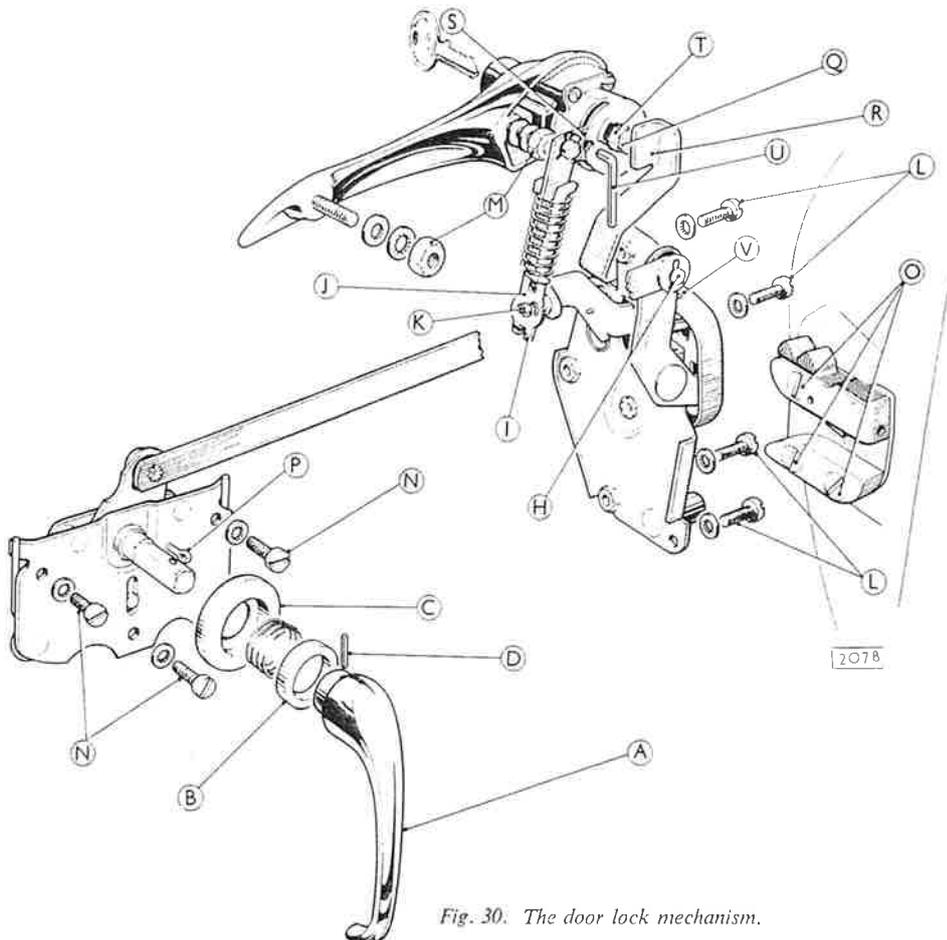

Fig. 30. The door lock mechanism.
The link is secured to the dowel (H, Fig. 30) on the lock lever by a circlip.
First release the spring (I, Fig. 30) holding the bottom of the outside handle extendable link (J) to the dowel (K) on the lock intermediate lever. This
This is retained by two nuts (M, Fig. 30).
Remove the three screws (N, Fig. 30) and take the remote control with its connecting link out through the aperture in the inner door panel.
The lock unit is inserted through the aperture in the inner door panel, passed around the window channel and lifted slightly until it projects through its cut-out in the door shut face. The four securing screws (L, Fig. 30) (with shakeproof washers) should then be fitted and tightened.
The remote control *must* be fitted in the locked position. For this reason it is supplied pinned in the locked position as shown at (P, Fig. 30).
The connecting link is fitted to the dowel (H, Fig. 30) on the lock operating lever and retained by a
Move the remote control *towards* the lock until the operating lever is in *contact* with the lock case as illustrated and tighten the three securing screws (N, Fig. 30).
The plunger housings on the outside handles are stamped LH or RH (left hand or right hand). The appropriate handle should be held in position on the door panel and the clearance between the push button plunger (Q, Fig. 30) and the lock contactor (R) checked through the aperture in the inner door panel. Do not check the clearance by depressing the push button as this may be deceptive. The clearance should be  $\frac{1}{32}$ "
Ensure that the remote control cam is pinned (P, Fig. 30) in the locked position. It will be observed that one of the three holes in the bottom of the extendable link (J) can be aligned with the dowel (K) on the lock intermediate lever. The extendable link is simply pressed
Attach the striker loosely by means of its three screws (O, Fig. 30) which pass through the door pillar into an adjustable tapping plate.
After assembly introduce a few drops of thin machine oil into the oil hole (V, Fig. 30) provided on top of each lock case and into the private lock key slots. These items should be lubricated once a month.